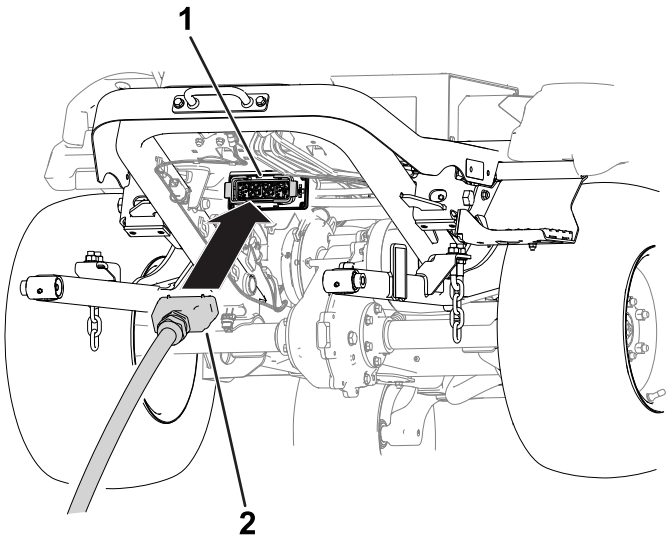

Figure 5
7. Insert the cutting-unit connector to the machine connector (Figure 5).